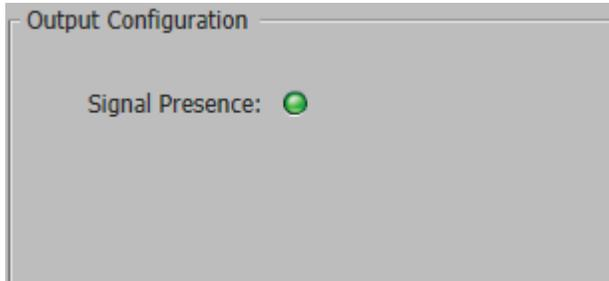

Figure 10. Output Configuration Panel
- **Signal Presence** — Signal status icon shows green when an active DisplayPort signal is present (see figure 10).